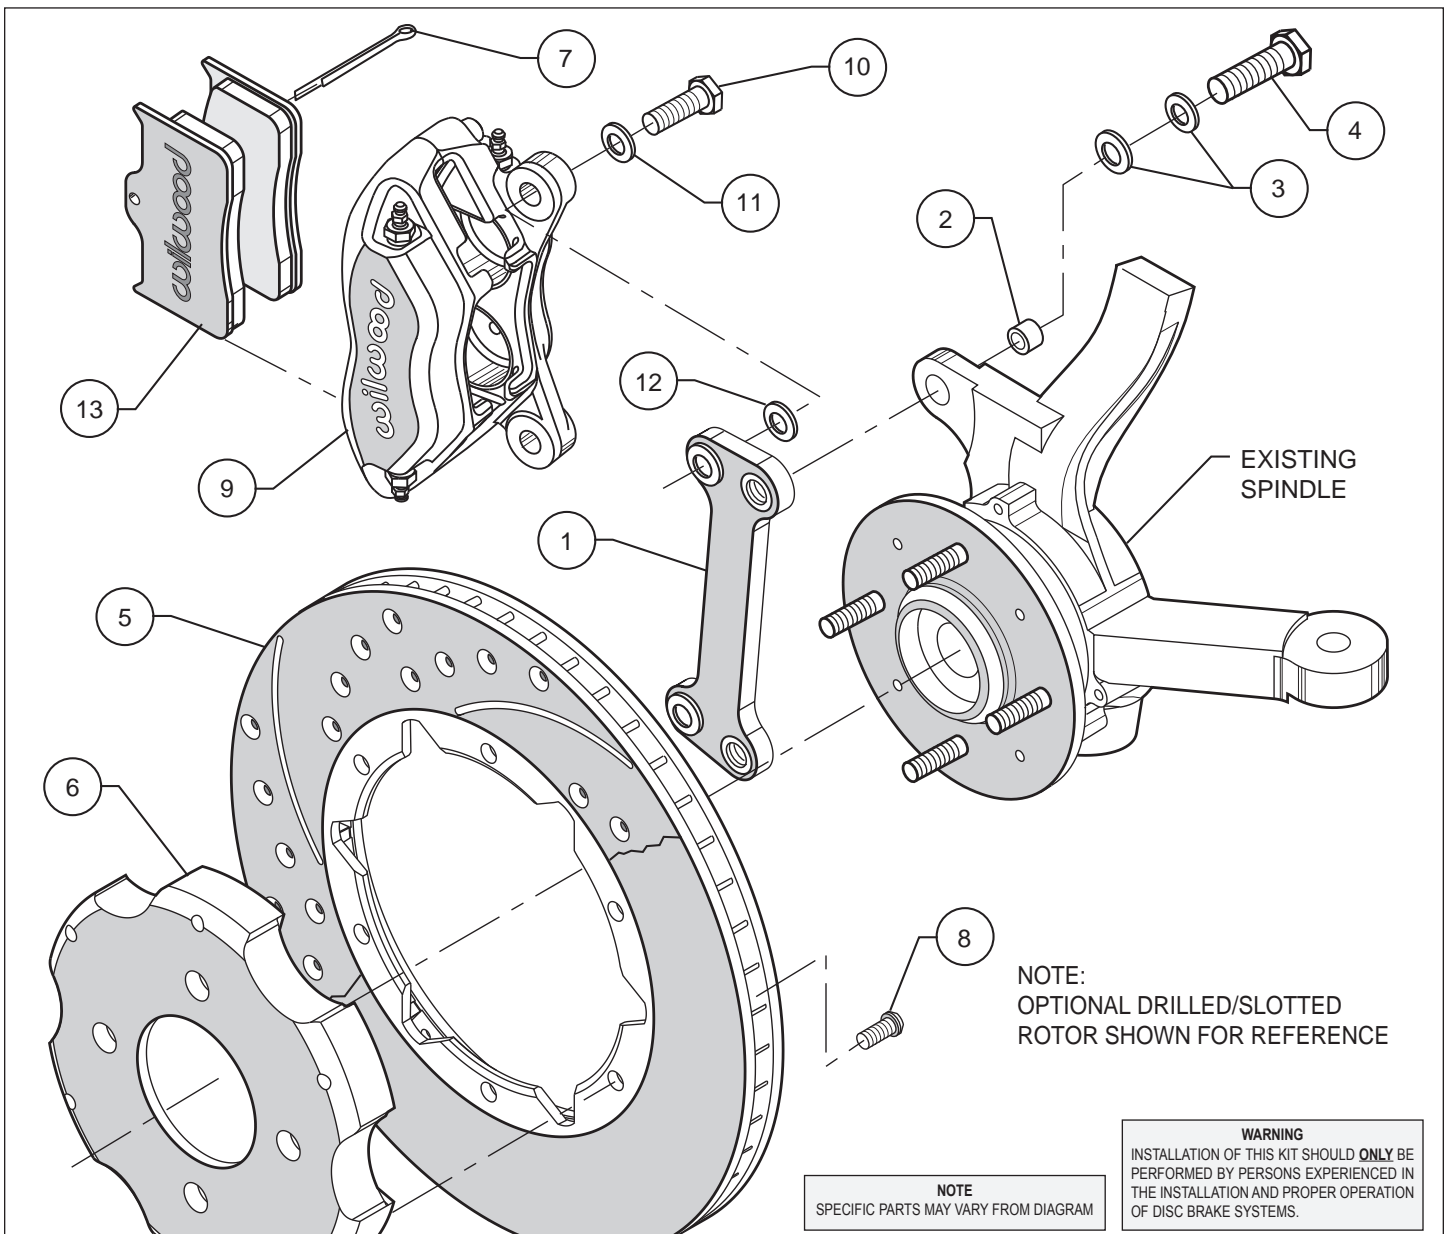

Figure 1. Typical Installation Configuration, Left Hand Application Shown
- Insert one sleeve (2) each into the holes on the top and bottom of the spindle "ears" where the OEM caliper bracket was removed. Apply red *Loctite*® 271 to the caliper mounting bracket bolt threads (4) before installation of the caliper mounting bracket (1). Install the caliper mounting bracket (1) with the threaded inserts and the beveled bolt holes facing the outside of the vehicle. Slide bolt (4) through two flat washers (3) into the previously installed insert (2) from the backside of the spindle. Finger tighten. Repeat for the lower mounting holes. Torque bolts to 40 ft-lb. **NOTE:** Be sure the heads of the caliper bracket (1) insert nuts are facing outward toward the wheel.
- Attach the hat (6) to the rotor (5) using bolts (8) as shown in Figure 1. Using an alternating sequence, remove bolts one at a time, apply red *Loctite*® 271 to the threads, and torque to 25 ft-lb.
- NOTE:** Please reference the caution statement at the beginning of the assembly instructions. Mount the caliper (9) onto the caliper mounting bracket (1) using bolts (10) and washers (11) as shown in Figure 1. Temporarily tighten mounting bolts and view the rotor (5) through the top opening of the caliper. The rotor should be centered in the caliper. If not, adjust by adding or subtracting 0.035 inch thick shims (12) between the caliper and the bracket. Always use the same amount of shims on each of the mounting bolts. **NOTE:** The end of each bolt must be flush with or slightly protruding from the head of the clinch nut. If necessary place spare shims between washer and caliper mounting ear to achieve the proper clinch nut engagement, as shown in Figure 4. Once the caliper alignment and clinch nut engagement are correct, remove bolts one at a time, apply red *Loctite*® 271 to the threads and torque to 40 ft-lb.
- Install the disc brake pads (13) and secure using cotter pin (7). Repeat this procedure for the other wheel.